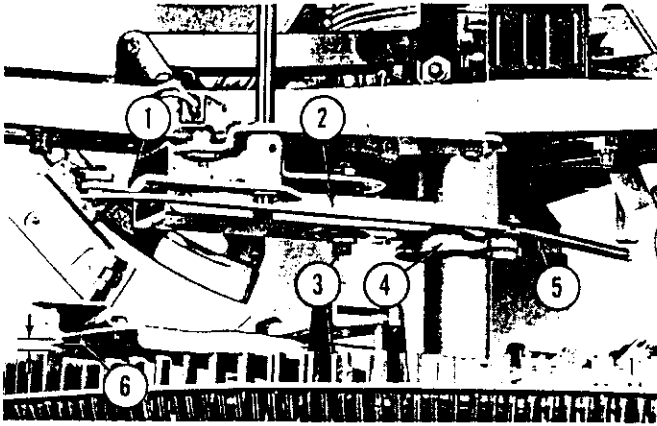
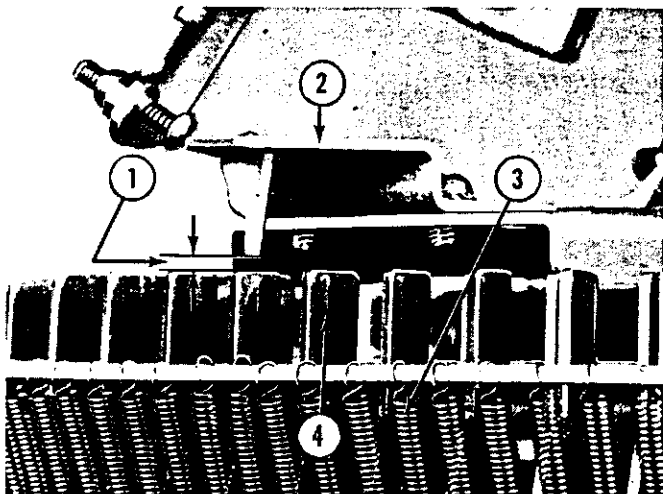

Fig. 16. RELEASE LEVER, LOADING POSITION
Fig. 17. SELECTOR CRANK CLEARANCE ADJUSTMENT
b. Selector Crank Clearance. (Figs. 16 and 17)
Aided by the "stop lever and roller assembly" (Item 2, Fig. 16) the "sleeve and bushing assembly" (Item 4) has three functions:
(3) It may be rotated about the selector shaft by means of the release lever and link (Item 1, Fig. 16) to change its upward limit of travel in accordance with the cam surface on the flange of the sleeve and the setting of the adjusting screw (Item 3). The setting of this adjustment should be made with the release lever and stop arm rollers in their operating position on the ramps of the flange as shown in Fig. 16, Item 4. With the selector latch pins reset, as shown in Fig. 17, the tips of the two selector cranks should
clear the latch pins by 1/16" to 1/8" as indicated at Item 1, Fig. 17. Assuming the electric selector to be in correct alignment, this dimension should be constant with relation to all selector latch pins in their reset position. When the release lever is moved to the loading position as shown at Item 4, Fig. 16, the tips of the selector cranks should be well clear of any released latch pins as shown at Item 6, Fig. 16. This condition is provided to enable free rotation of the record carrier while changing records, even though some latch pins are in their released position.